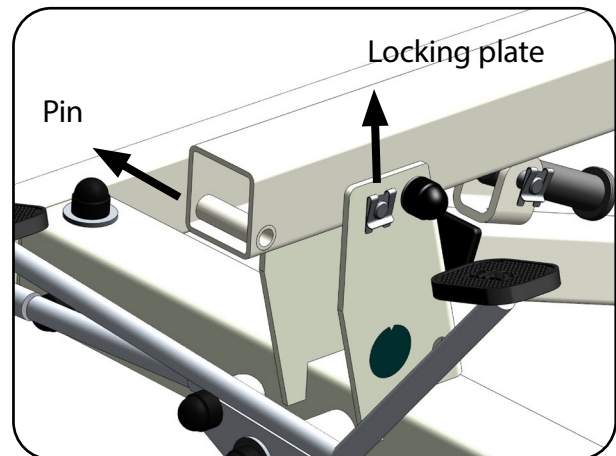

Fig. 6.2.02 – Stand mast holder
4. Remove the locking plate and then remove the pin from the hole for the transport lock on the stand mast holder (Fig. 6.2.02).